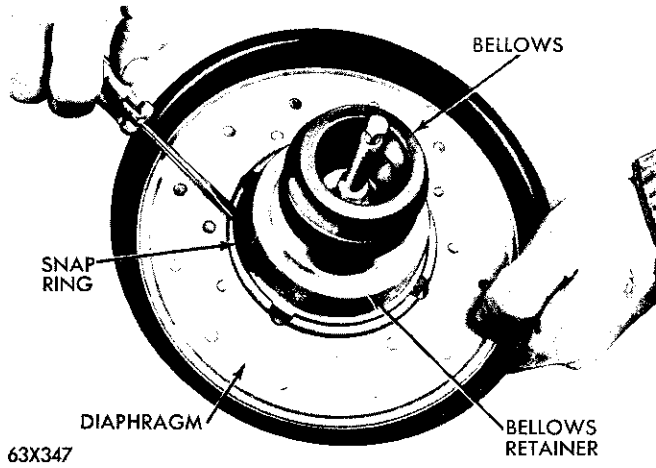
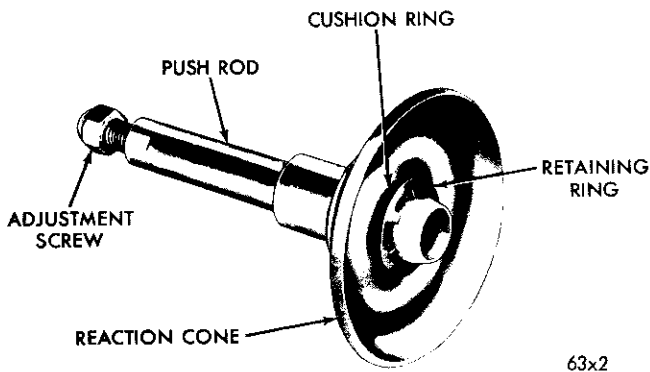

Fig. 37—Removing Bellows Retainer
Fig. 38—Master Cylinder Push Rod
(9) Using a screw driver pry out the large retaining snap ring that retains the bellows to the diaphragm (Fig. 37).
(10) Pull the bellows out of the bellows retainer and remove the retaining ring from the bellows.
(11) Slide the master cylinder push rod assembly from the plunger (Fig. 38).